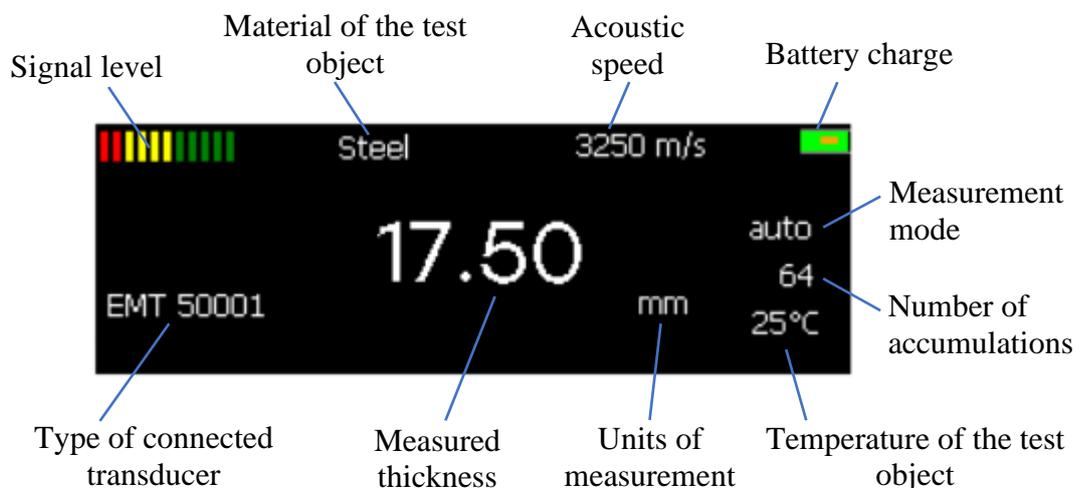

Figure 2.2 – Window with measured thickness
2.2.2 When the Device is loaded, a window with measured thickness appears (Figure 2.2).
Field (see Figure 2.2)	Description
2.5.3.2 Set the known exact value of the test object thickness according to paragraphs 2.4.2 - 2.4.7 (Measured thickness field in Figure 2.2).